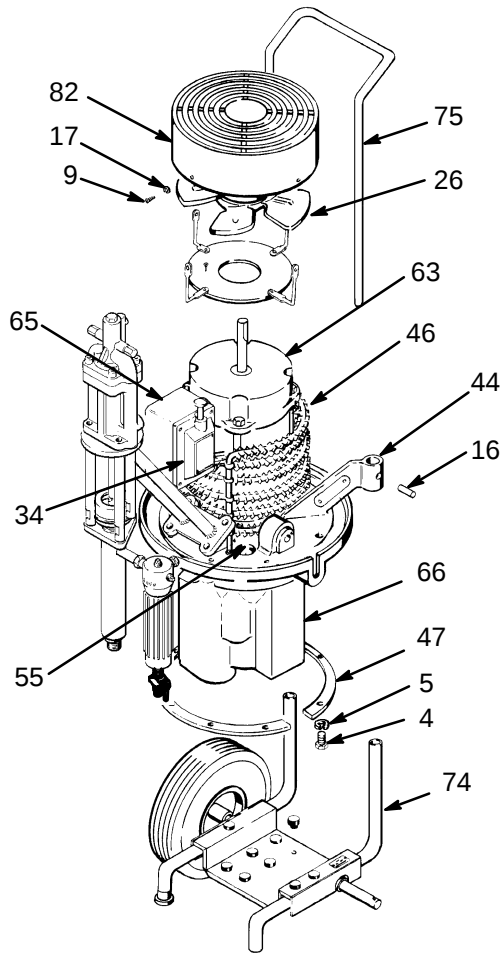
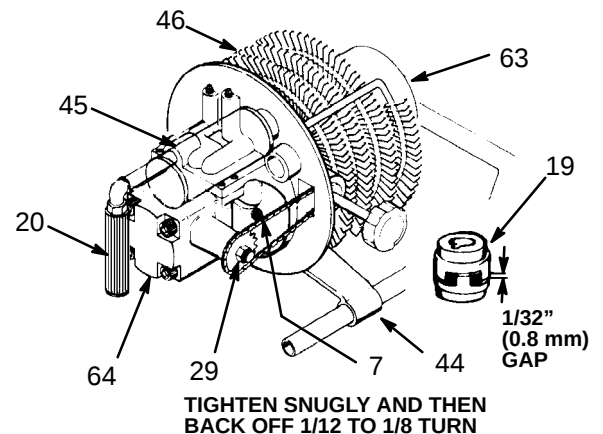

Fig 12
Fig 14
NOTE: Refer to Fig 12 for this procedure.
1. Unplug the sprayer. Relieve pressure. Remove the shield (119). Disassemble the sprayer as in **ELECTRIC MOTOR REPLACEMENT**, page 18.
2. Loosen the setscrew in the coupling half (19). Push the coupling against the hydraulic pump (64). See Fig 12. Remove the four screws (1), the washers (5) (see page 20) and the hydraulic pump. Discard the o-ring seals. See Fig 14,15 and page 20.
3. Remove the adjusting sprocket retaining nut (29) and pull the sprocket off the adjusting nut. See Fig 14.
4. Apply light grease to the o-rings. Place the o-rings on the pump mounting. Put the coupling half on the shaft of the new pump and leave it loose. See Fig 14.
5. Carefully put the pump in place on the mounting so you don't disturb the o-ring seals. Install the mounting screws tightly. Push the coupling half into the other coupling half until there is a 0.31 in. (0.8 mm) clearance between them, and then tighten the coupling setscrew firmly. See Fig 14.
6. Put the adjusting chain onto the sprocket, then onto the adjusting nut, and then screw the retaining nut (29) onto the stud and tighten until snug. Finally, back off the nut 1/12 to 1/8 turn. See Fig 14.